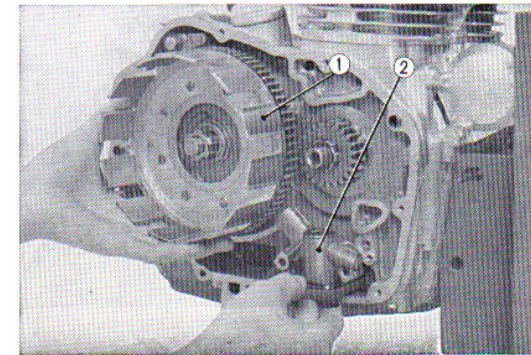

Fig. 3.86 Removing the oil pump together with the clutch outer
6. Remove the oil pump together with the clutch outer. (Fig. 3.86)